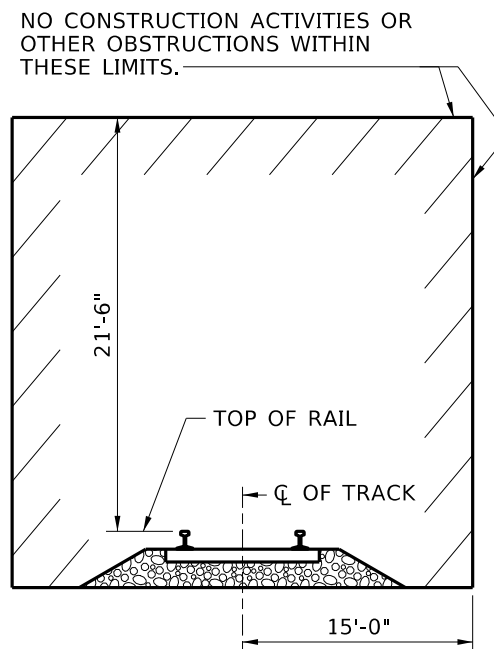

FIGURE 1
- TEMPORARY CONSTRUCTION CLEARANCES, INCLUDING FALSEWORK CLEARANCES, SHALL COMPLY WITH FIGURE 1.